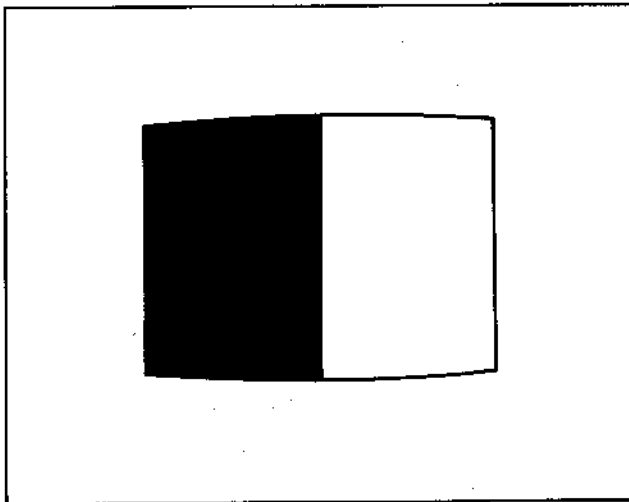

Fig. 4-4-26. Test signal adjustment
- (1) Turn on the TEST SIG switch.
- (2) Adjust RV13 so that the monitor TV picture becomes as shown in Fig. 4-4-26.